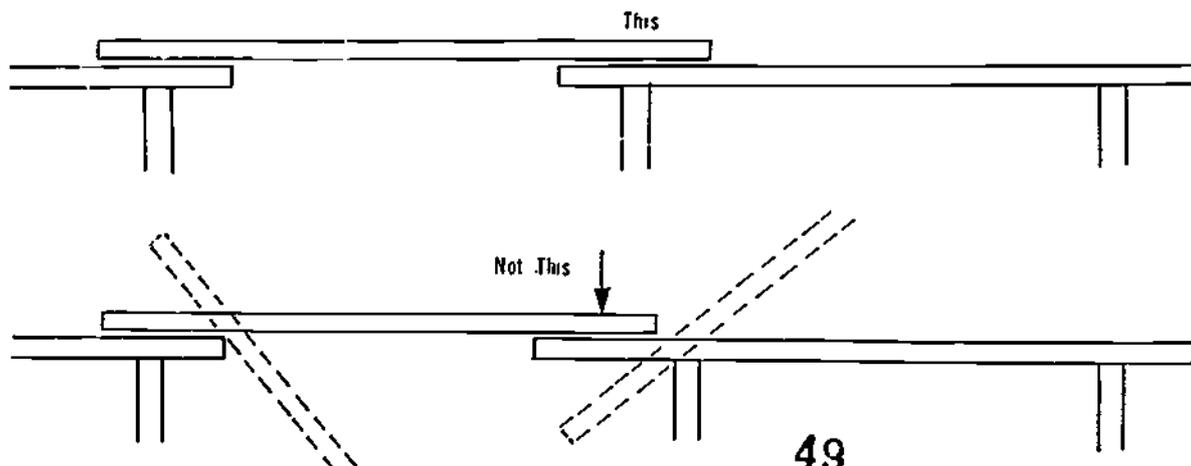

Figure 2-33. Plank Overlapping
d) The minimum size, maximum span, and minimum overlap for scaffolding planks must conform to the Workers' Compensation Board regulations. The Figure 2-33 sketches describe the overlap of scaffold planks.